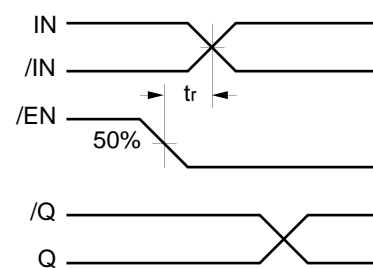

Figure 3. Release Time
7. The release time is the minimum time that /EN must be de-asserted prior to the next IN, /IN transition to ensure an output response that meets the specified IN to Q propagation delay and output transition times (see Figure 3).